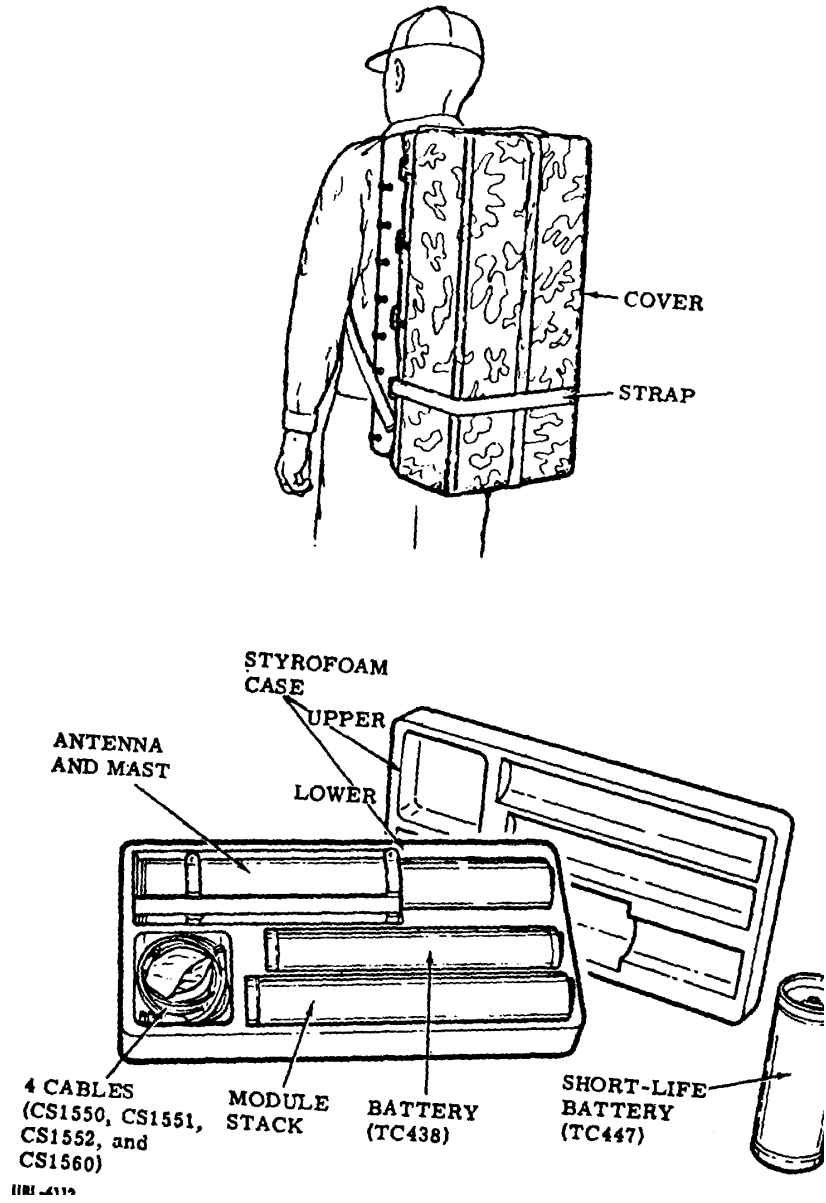

Figure 4-3H. MA87 EXTRA Y Package
Procedures in paragraphs 4-25C.3 and 425C.4 are alternatives. The aft end cap assembly P99556 with 6 screws on the aft face (figure 4-3H) is removable and permits later replacement of receiver or transmitter; the aft end cap P96683 with a groove around it is permanently fixed in the module can.
5. Position module can in lower case of MA87 (figure 4-3H).
a. Position battery can in lower case of MA87 (figure 4-3H).
b. Similarly, install cables and antenna assembly as shown in figure 4-3H.